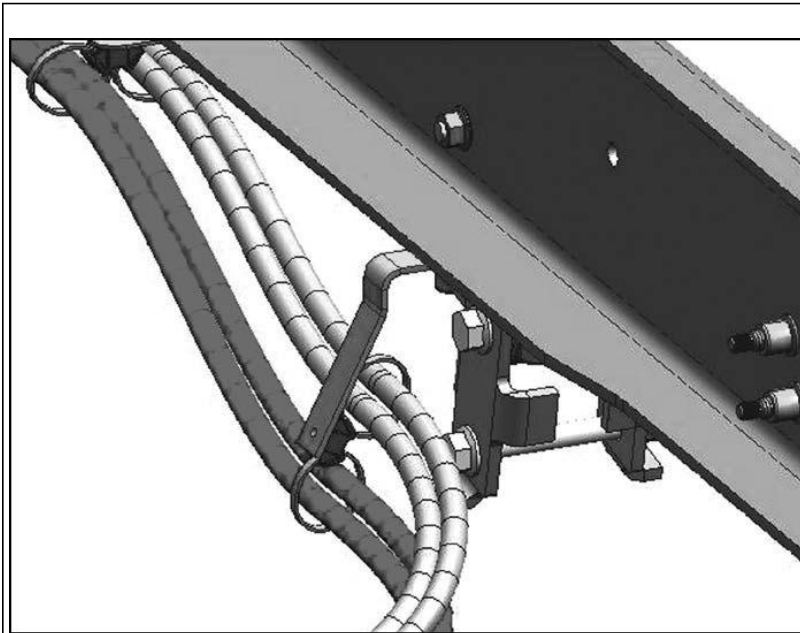

Figure 1: Before Repair
1. Inspect battery cables as they lead from the battery box to the starter for contact at the spring hanger or shackle bolt. (See Figure 1)